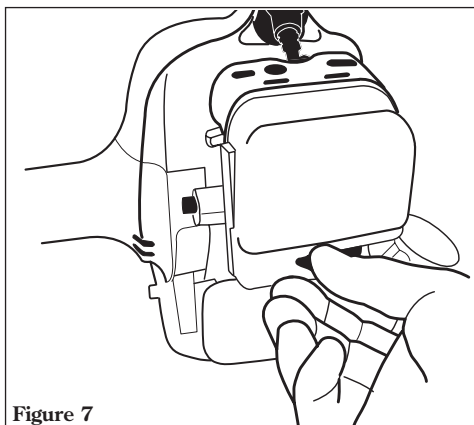

Figure 7
1. Loosen the air cleaner cover knob and remove the air cleaner cover. See Figure 7.